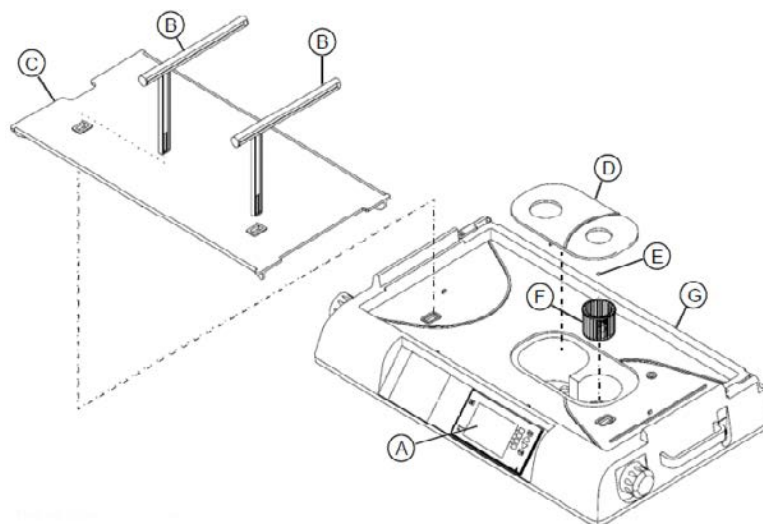

Fig. 57 Impeller Assembly
- 11 Pull the two mattress tilt bars (Fig. 57/B) up through the main deck (Fig. 57/C), and remove them from the unit.
- 12 Remove the main deck (Fig. 57/C) from the unit.
- 13 Remove the heater/impeller cover (Fig. 57/D) from the unit.
- 14 Using pliers, remove the wire hose clamp (Fig. 57/E) (if present) that secures the impeller assembly (Fig. 57/F) to the upper shell assembly (Fig. 57/G).
- 15 Remove the impeller assembly (Fig. 57/F) from the upper shell assembly (Fig. 57/G).